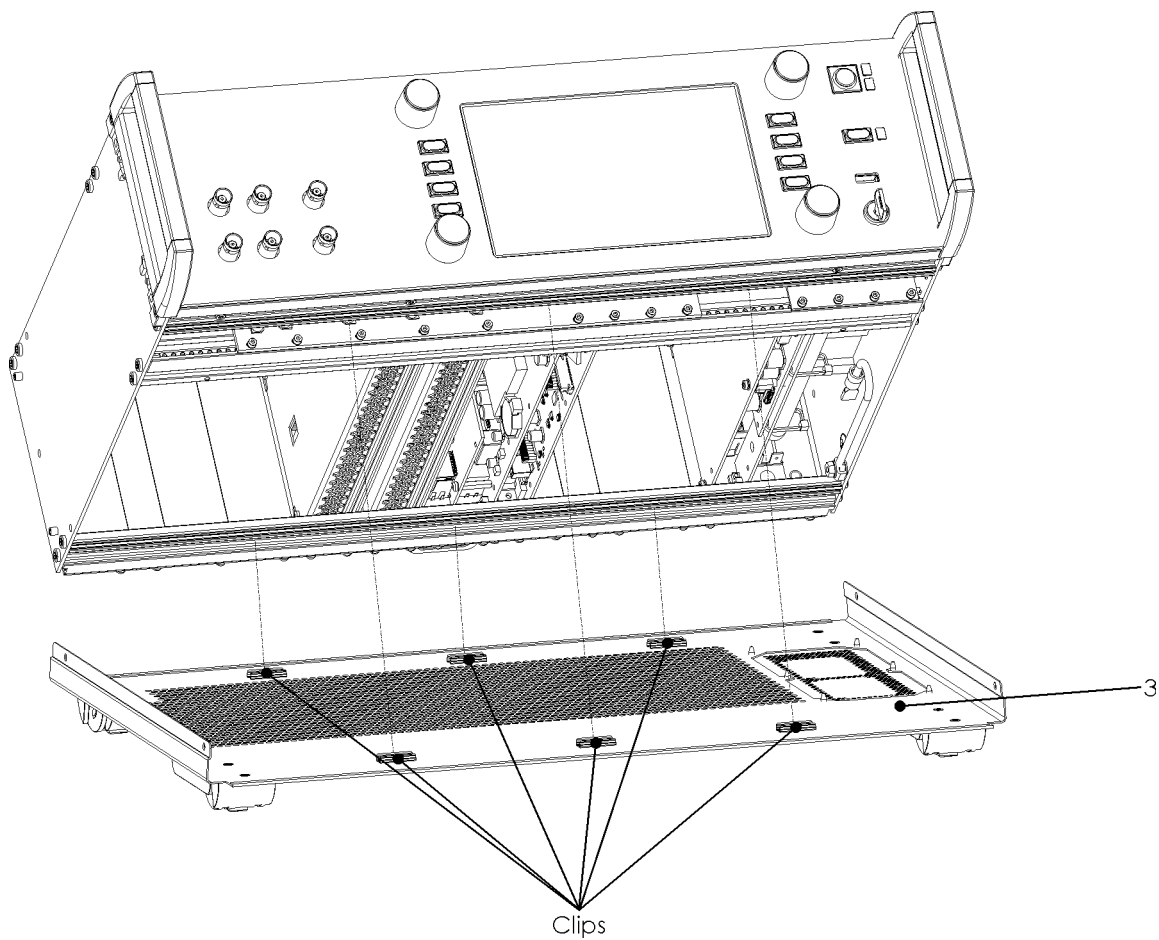

Figure 166 Lifting the DLC pro from the base plate
1. Remove 4 x screws (1) and lift DLC pro top cover (2) upwards. Please note that the top cover (2) is clipped into rails at 6 points (The clips are similar to the ones of the base plate illustrated in Figure 166). These connections must be unclipped when lifting the top cover (2) upwards.
2. Release the clips between DLC pro and base plate (3) at both sides and lift the DLC pro from the base plate (3) as shown in Figure 166. Please note that the base plate (3) is also clipped into rails at 6 points. These connections must also be unclipped when lifting the DLC pro from the base plate (3).